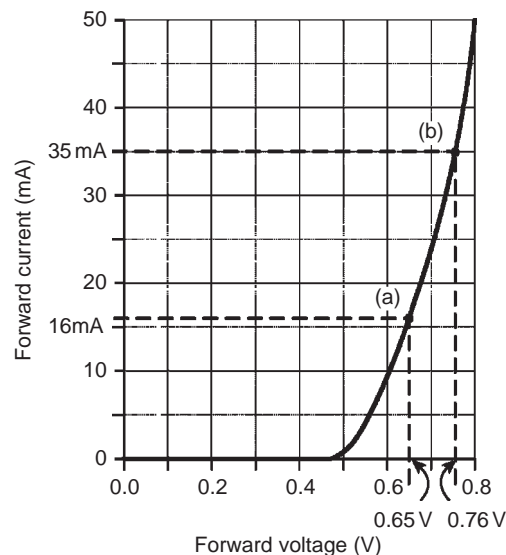

Figure 13.12
The I/V characteristic is shown in Fig. 13.12. Since the device begins to conduct when a potential of approximately 0.6 V is applied to it we can infer that **the semiconductor material is silicon** rather than germanium.
Problem 6. For the characteristic of Fig. 13.12, determine for the device (a) the forward current when the forward voltage is 0.65 V and (b) the forward voltage when the forward current is 35 mA.
- (a) From Fig. 13.12, when the forward voltage is 0.65 V, the forward current = 16 mA